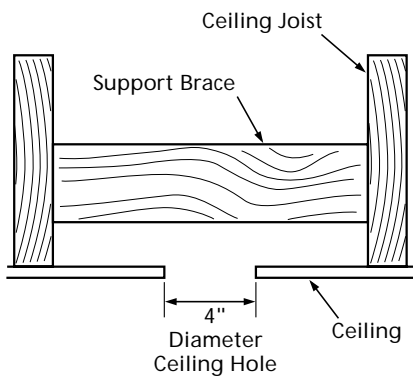

Figure 2c - Ceiling Hole and Support Brace
2. Cut a four inch (4") diameter hole through the dry-wall or plaster of the ceiling as shown in Figure 2c. You will use the hole to install the support brace and outlet box.
1. Attach a 2" x 4" support brace between two joists. The support brace must allow the bottom of the outlet box to be recessed a minimum of 1/16" into the ceiling. See Figure 2c.